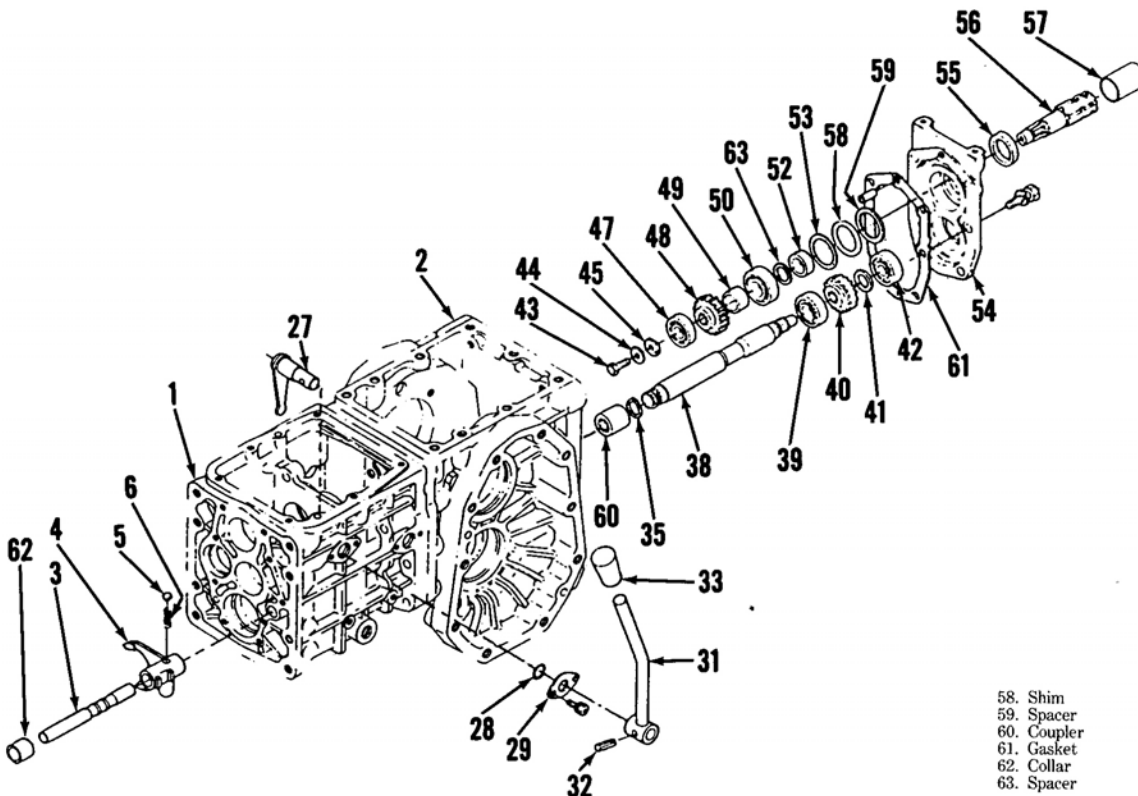

Fig. 89 — Exploded view of pto components used on Models B5100D and B5100E. For identification of parts, refer to legend in Fig. 88 except for the following.
a suitable container. Raise hood and disconnect battery cable from negative battery post. To remove pto components located in center housing, first remove the six cap screws securing rear cover (54—Fig. 89 or Fig. 90) to center housing (2). Using a suitable mallet, lightly tap rear cover (54) to separate components, then withdraw rear cover assembly. Using a suitable puller, extract bearing (42) from shaft end (38). Remove snap ring (41), then withdraw gear (40).
89. **R&R AND OVERHAUL.** Service to pto components located in gear transmission is outlined in paragraphs 73 and 74. Pto select linkage components are serviced with reference to Fig. 89 on Models B5100D and B5100E and Fig. 90 on Models B6100D, B6100E and B7100D after removal of needed gear transmission components to allow access to shift components.